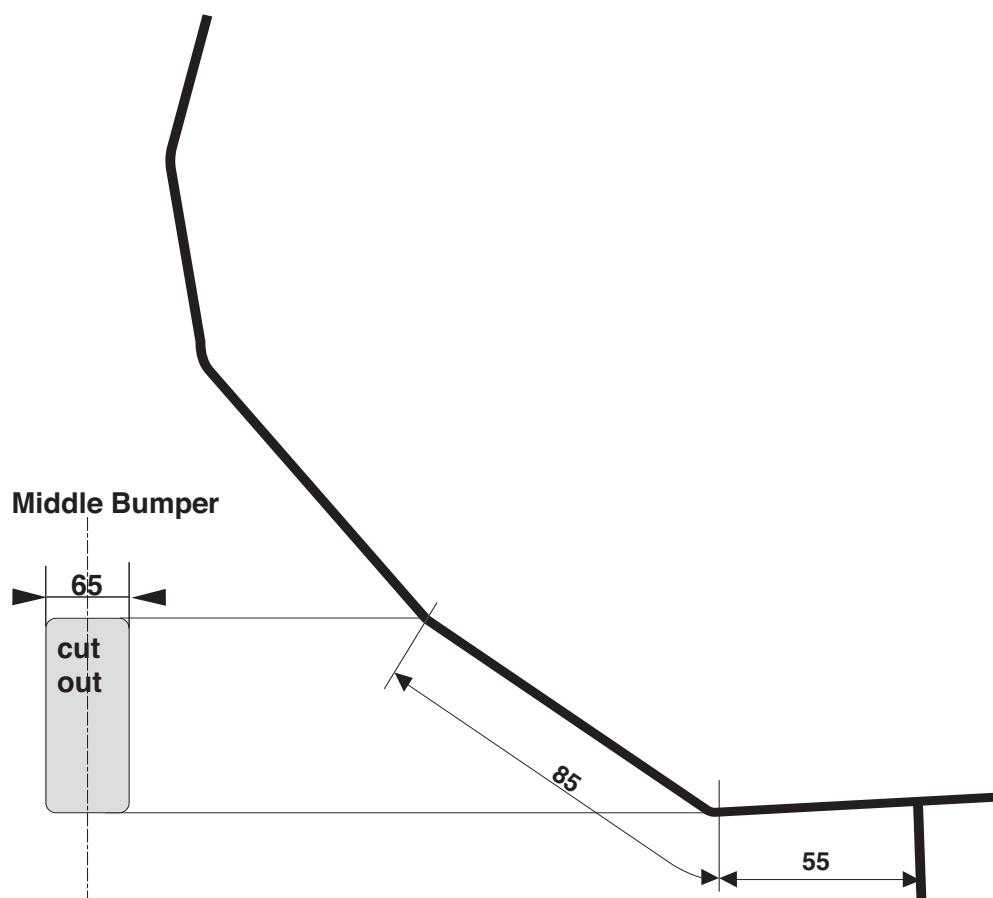

Fig. 1
8. Saw a section out of the middle of the underside of the bumper as shown in fig 1.